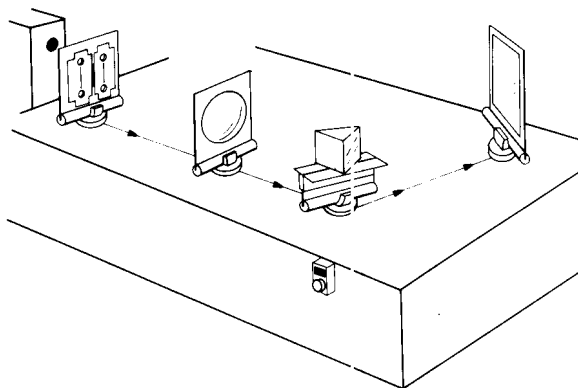

Figure 12. This spectrophotometer uses a prism to break up the light. It is similar in many respects to the grating spectrophotometer.
1. *Set up a different spectrophotometer* using a prism instead of a grating to break up the light. Use the same template but place the components as shown in Figure 12.